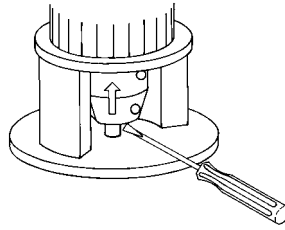

Fig. 16 Raising the coupling and the pump shaft
3. Raise the coupling and the pump shaft as far as possible (towards the motor) with a screwdriver or a similar tool so that the pump and motor shafts touch each other. See fig. 16.